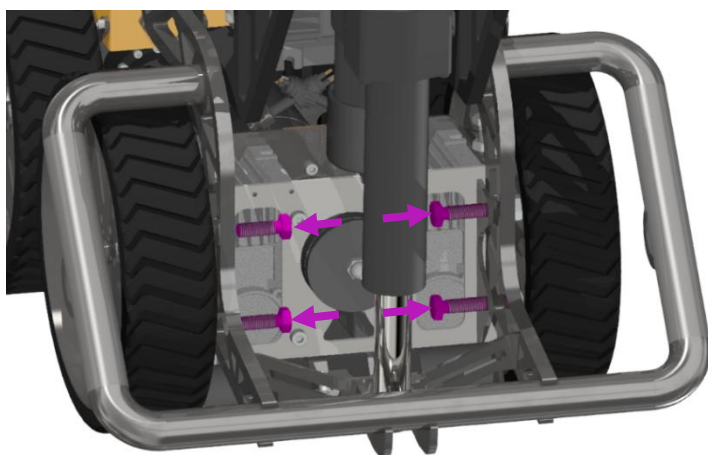

Figure 19 Bolt connection swing arm
1. Remove the protection bar with the four M12 bolts as shown in Figure 19
3. Mount the swing arm onto the carrier using the four bolts as shown in Figure 19